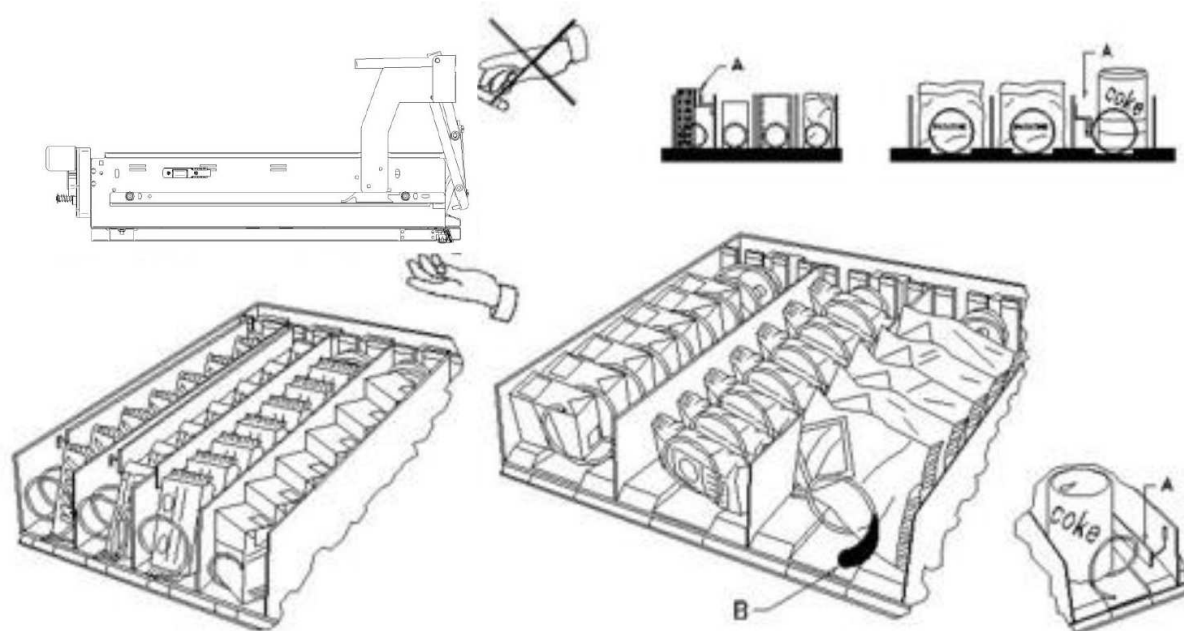

fig. 3
8.2 ENTRETOISES POUR PRODUITS DANS LES TIROIRS (fig. 3)
8.3 ÉJECTEUR POUR PRODUITS (fig. 3)